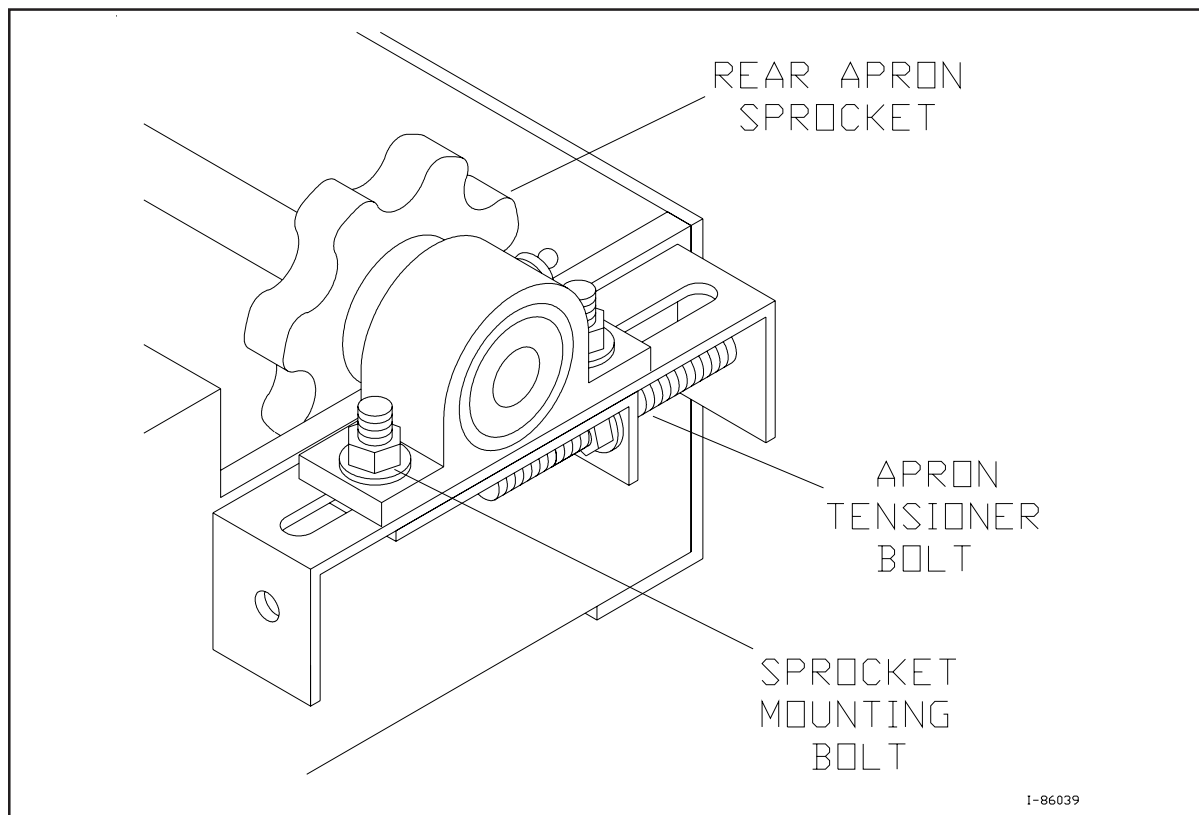

Figure 4A - Adjusting the Apron Chain Tension
- Periodically check the apron chain and/or cross conveyor belt for proper tension/tightness (refer to Figures 4A and 4B).
- a) The apron chain can be adjusted using the apron tensioner bolts at the rear of the row mulcher as shown in Figure 4A.